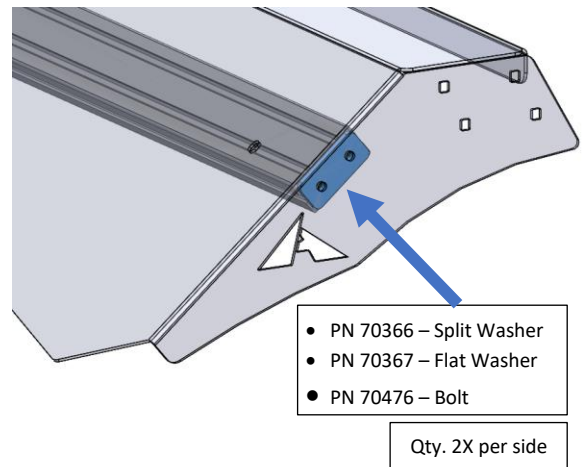

Figure 12: Air Dam Spacer Installation
8. Install air dam spacer between crossbar and air dam inside edge (Figure 12). Use ¼”-20 hardware to fasten together. Repeat for both driver and passenger side.